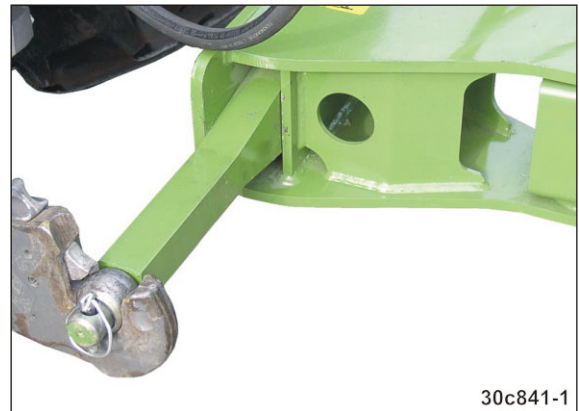

Fig. 157
16. Open the securing device (Fig. 157) of the tractor's lower link (see tractor operating manual).